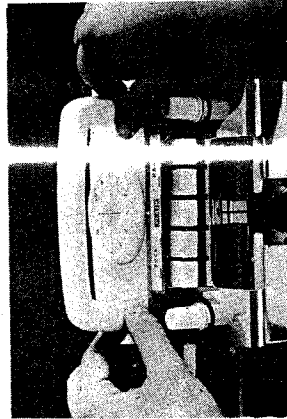

Fig. 13
- g. Assemble the carriage. Take out the handle from the carton case. Both sides of the handle should be screwed down at the same time to avoid stripping the thread. (See Fig 13)